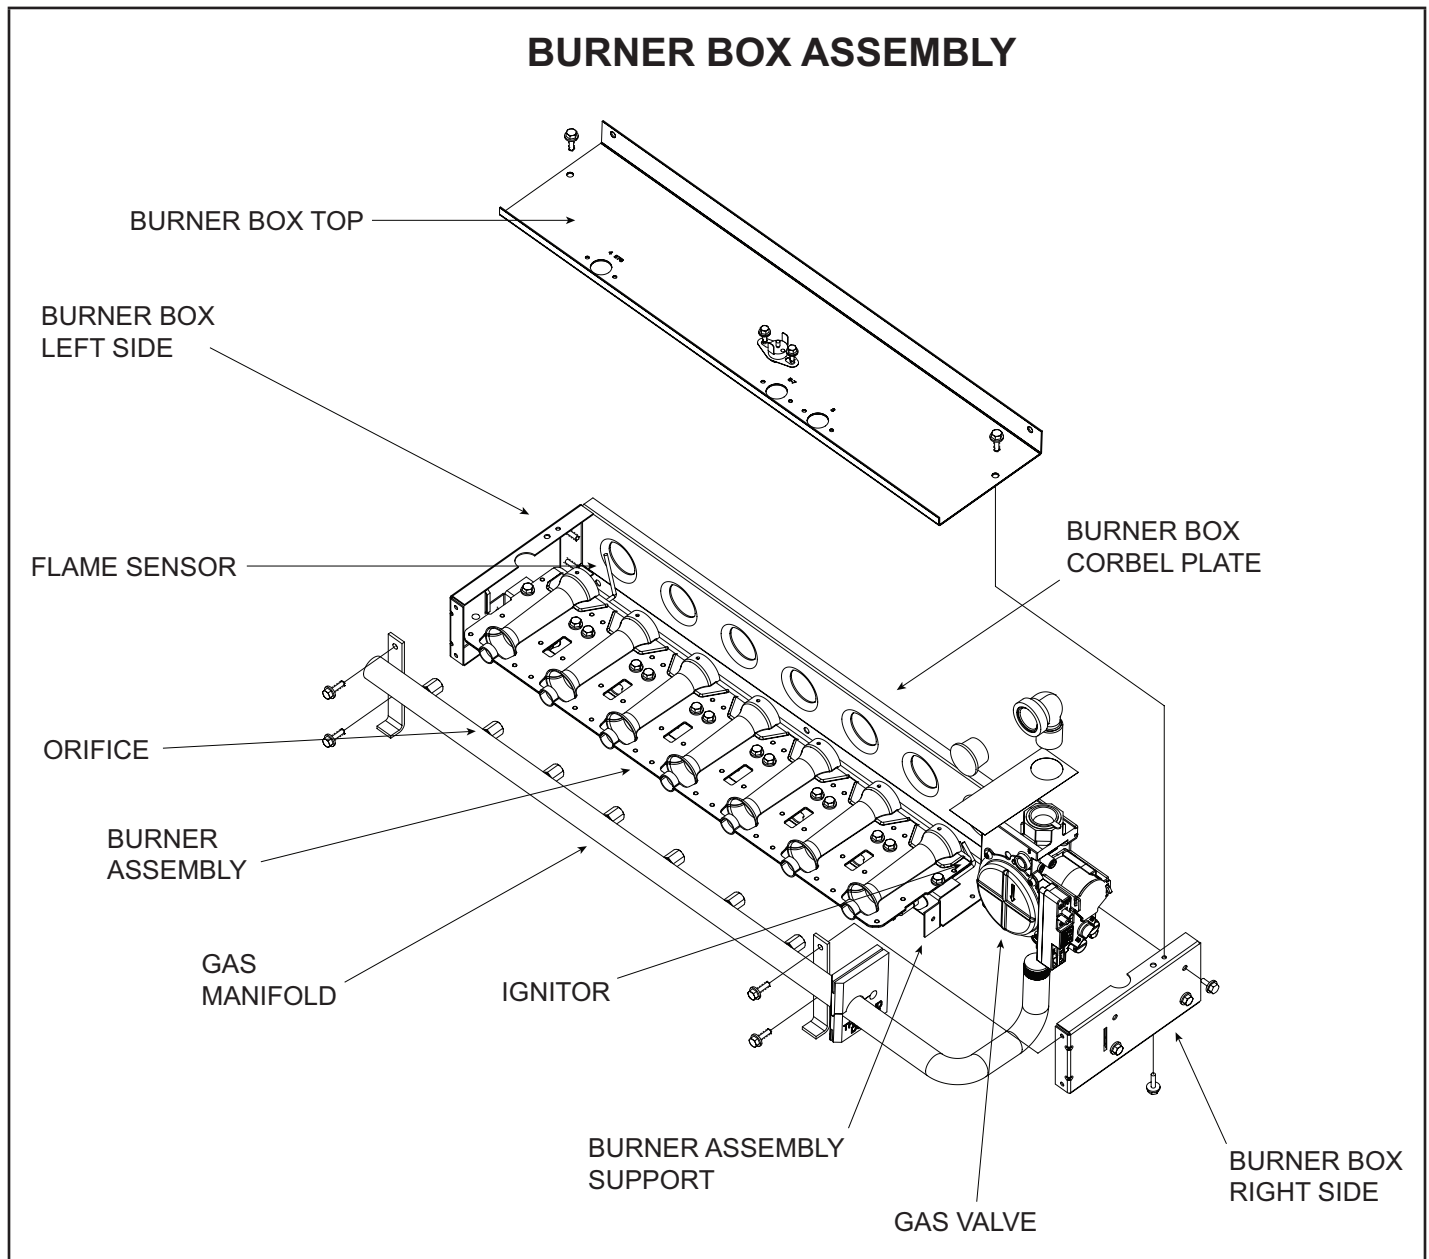
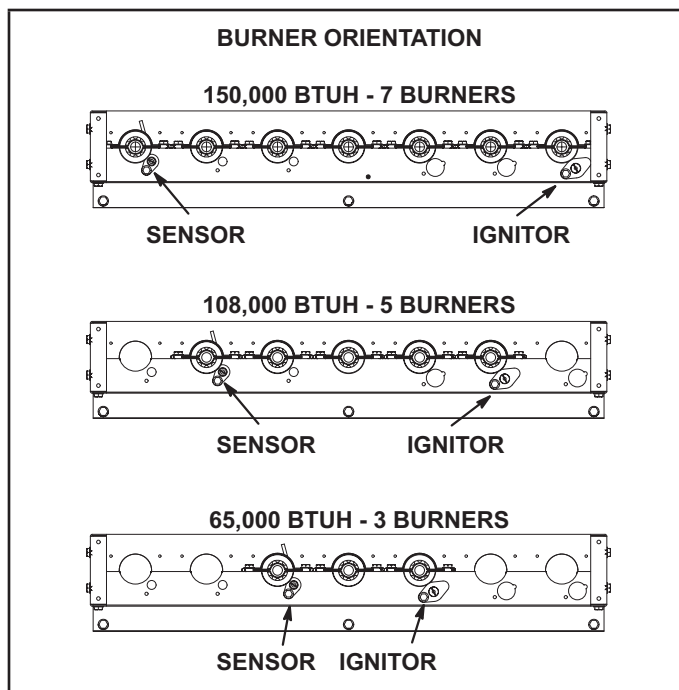
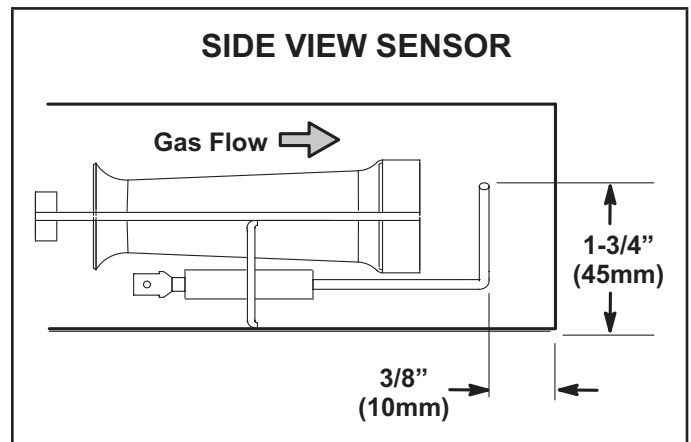

Figure 14
Figure 15
Figure 22
4. Burner Box Assembly (Figure 14)
The 3, 5, or 7 burners are made into a single assembly and can only be removed as a single assembly from the burner box. Burner maintenance and service is detailed in the SERVICE CHECKS section of this manual. See Figure 14 for burner removal. See Figure 15 for number of burners.
For each burner assembly, the unit has a corresponding manifold assembly. The manifold assembly is a formed, painted, 1/2" diameter, black iron pipe with 3, 5, or 7 brass orifices installed. The manifold assembly secures to the burner box (See Figure 14) using sheet metal screws. A manifold is correctly installed when the each orifice falls inside the small inlet ring at each burner's inlet.
The flame sensor electrode is mounted through a hole in the burner support, electrode tip protrudes into the flame envelope of the appropriate burner, and the electrode assembly is secured with a screw to burner support. The electrode assembly can be removed for service without removing any part of the burners. Figure 15 shows the burner support mounting location by heater size. A side view of the FS electrode can be seen in Figure 22. The FS electrode is designed so the tips are at least 1/2" (12.7 mm) inside the flame envelope. FS electrode is not field adjustable. Do not bend or alter the electrode as this may create a hazardous condition that can cause property damage or personal injury.